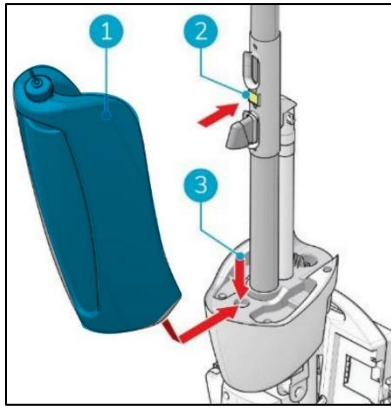

figure 31
14. Put the bottom of the recovery tank (Figure 31, pos 1 and pos 3) on the front of the i-mop® XXL
15. Push the top of the tank into place until you hear a "click" sound, the magnet (Figure 31, pos 2) will lock the recovery tank into place.